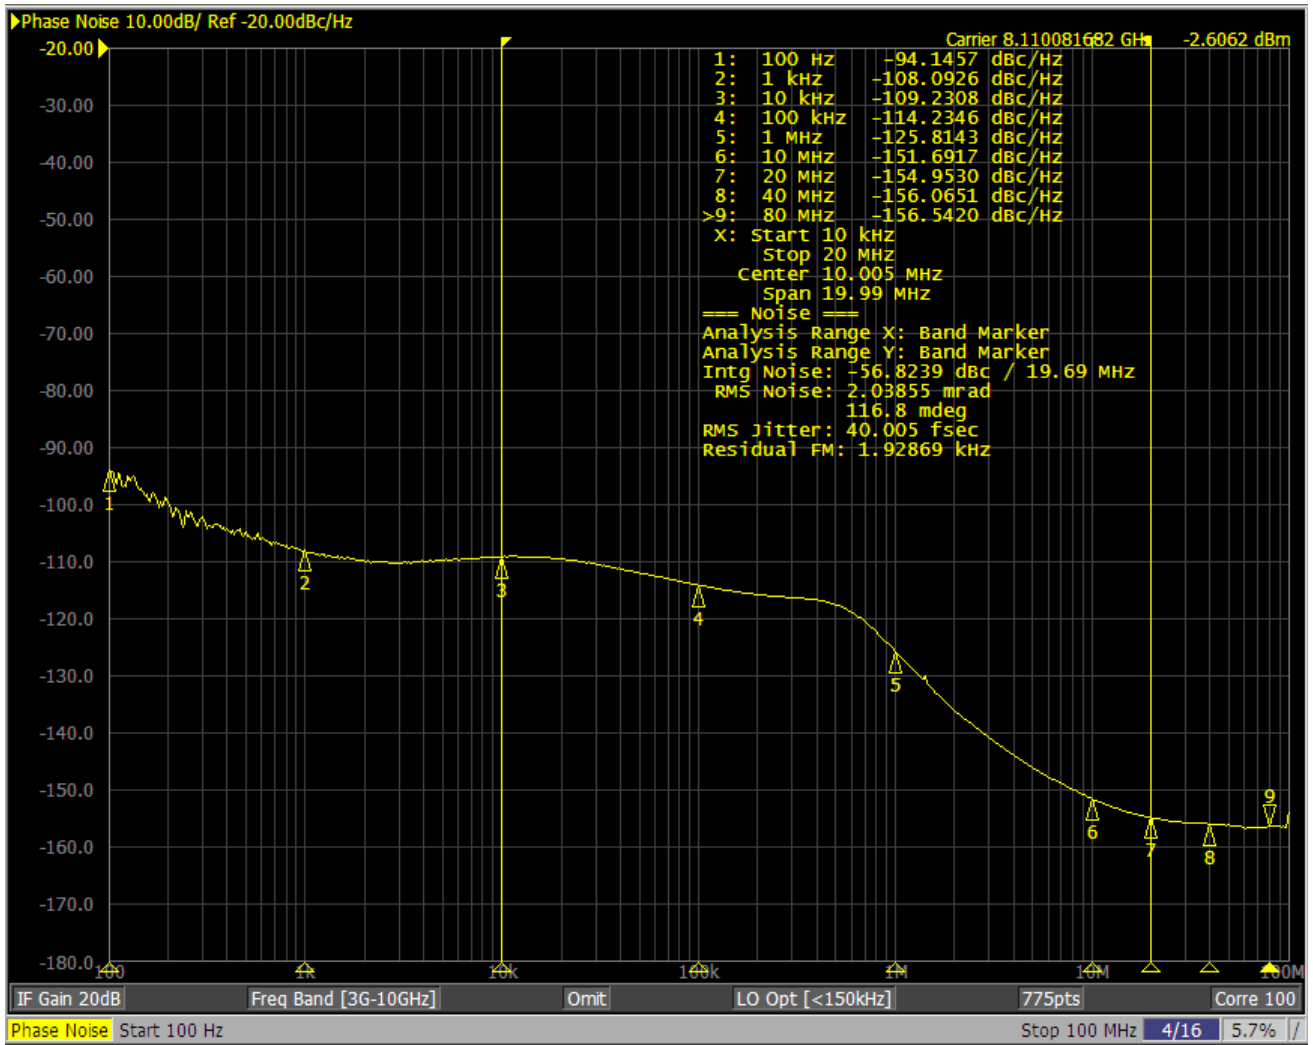

Figure 19. Expected Performance of 8110.08MHz Output from Example 1
- c. Set Pmos = 8.5mA, Nmos = 8.5mA, Bleeder = 1100 μ A to improve phase noise performance as shown in Figure 19